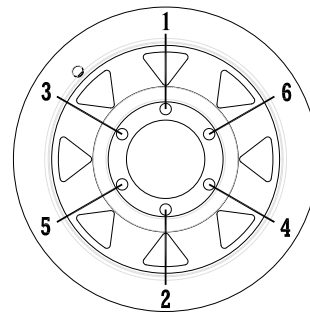

Fig. 4-2 - 6 Bolt
- Failure to check torque before first use may damage wheel nut/bolt seats. Once seats are damaged, it will become impossible to keep nuts/bolts tight. Tighten nuts/bolts to applicable torque value shown in table. Start all nuts/bolts by hand to prevent cross threading. Torque nuts in the recommended sequence as shown in Fig. 4-2.